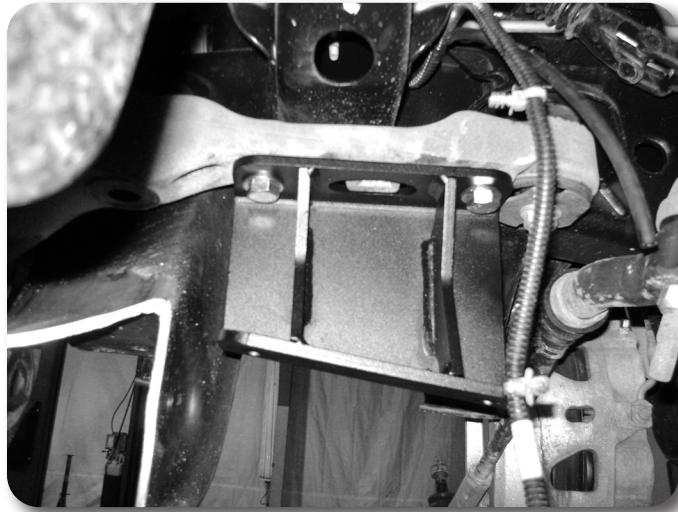

Figure 30
41. Locate the new driver's side differential bracket. Bracket has two center gussets. Install the bracket to the 2 front original differential mounting holes with the provided 12mm-1.75 x 40mm bolts and 1/2" SAE washers, applying thread locker to the threads before installation. When installed the open side of the bracket will face inward and the bracket will taper down as it goes to the rear **Figure 30**. Torque bolts to 65 ft-lbs.